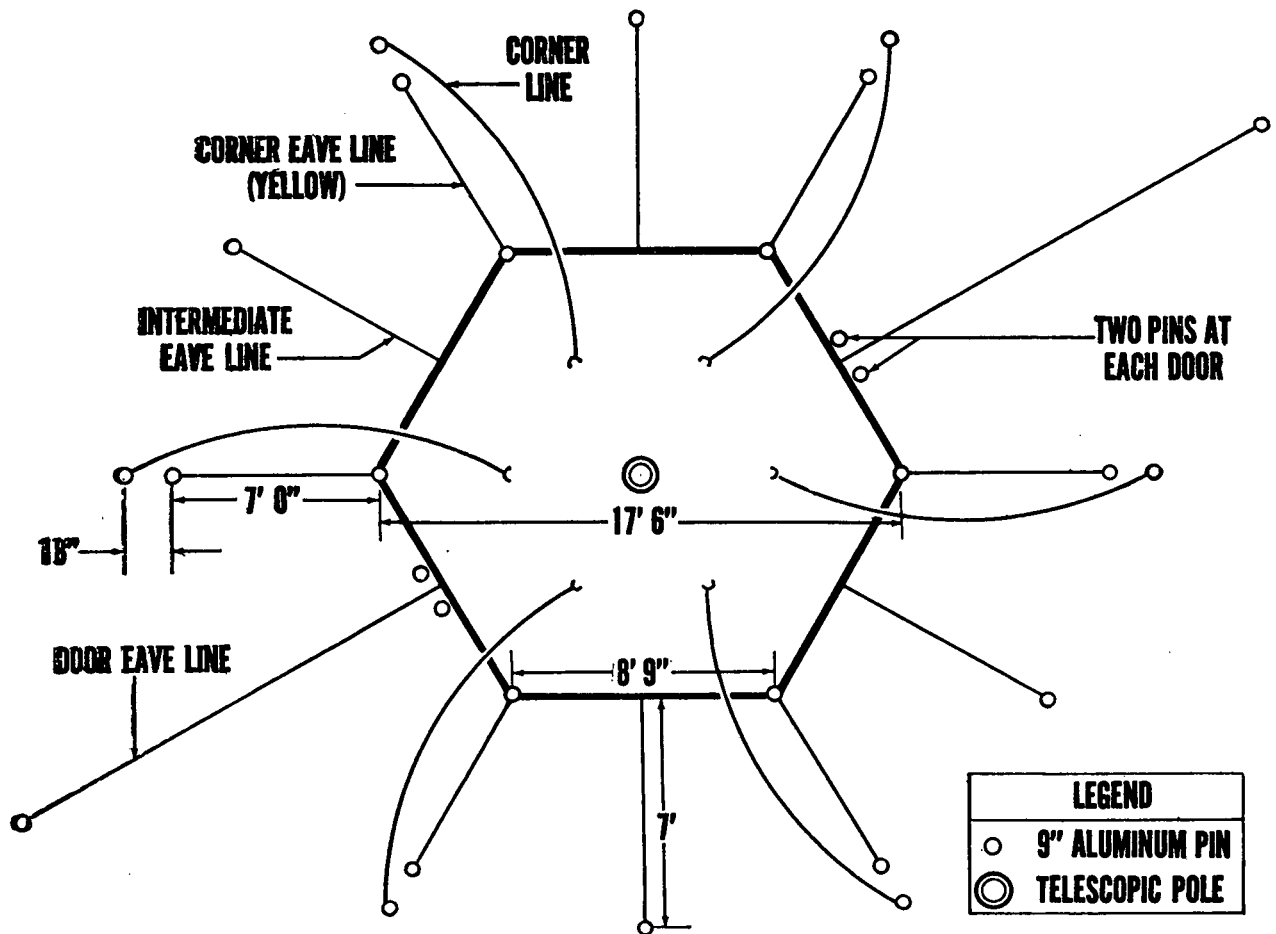

Figure 2. Ground plan of tent, arctic, 10-man.
- (7) *Screen doors.* Screen doors are attached to the front and rear of the tent for protection against insects.
- (8) *Sock lines.* Four sock lines are provided for drying clothing and equipment.
- (9) *Liner.* A fire-resistant liner, made of 5.2-ounce permeable cotton sheeting, is provided to insulate the tent and to prevent frost from falling on the occupants. The liner is held in place by metal toggles.
- (10) *Cover.* The tent is provided with a cover for use when it is in storage or is being transported. The tent and liner, when folded fit into the cover. Aluminum tent pins are nested and the magnesium pole telescoped to its shortest length and placed in the pocket at one side of the cover.
c. Ground Plan. Before pitching the tent, study the ground plan carefully (fig. 2).